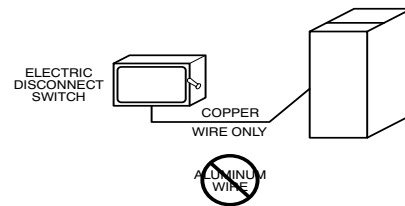

Fig. 33 – Field-Supplied External Electrical Box on Furnace Casing
Do not connect aluminum wire between disconnect switch and furnace. Use only copper wire. See Fig. 33.
1. Drill two (2) 1/8-in. (3 mm) pilot holes through the dimples in the furnace casing near the 7/8-in. knockout or plug on the side of the casing. Do not remove the knockout or plug in the side of the casing.
9. Connect field power and neutral leads to furnace power leads inside the external electrical box as shown in Fig. 33.